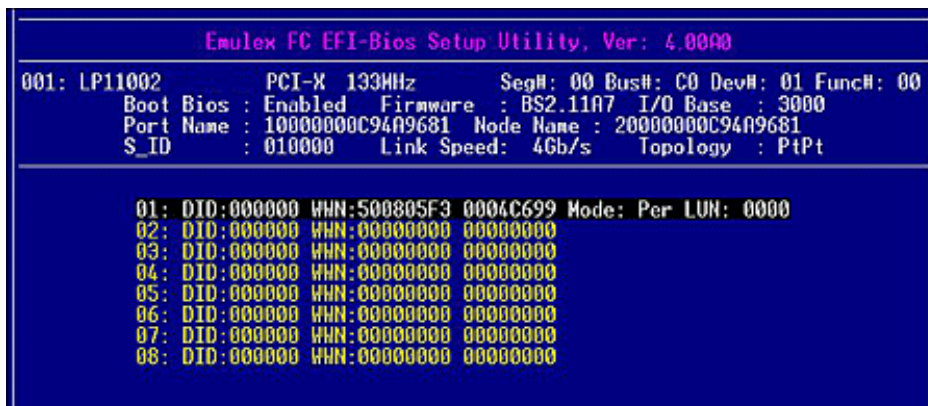

Figure 6-26 Boot LUNs
1. On the Boot Configuration menu, select **4. Configure Boot Devices** and press **<Enter>**. The screen shown in Figure 6-26 is displayed.